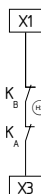

Fig. 10
**Automatic start (see Fig. 10)**